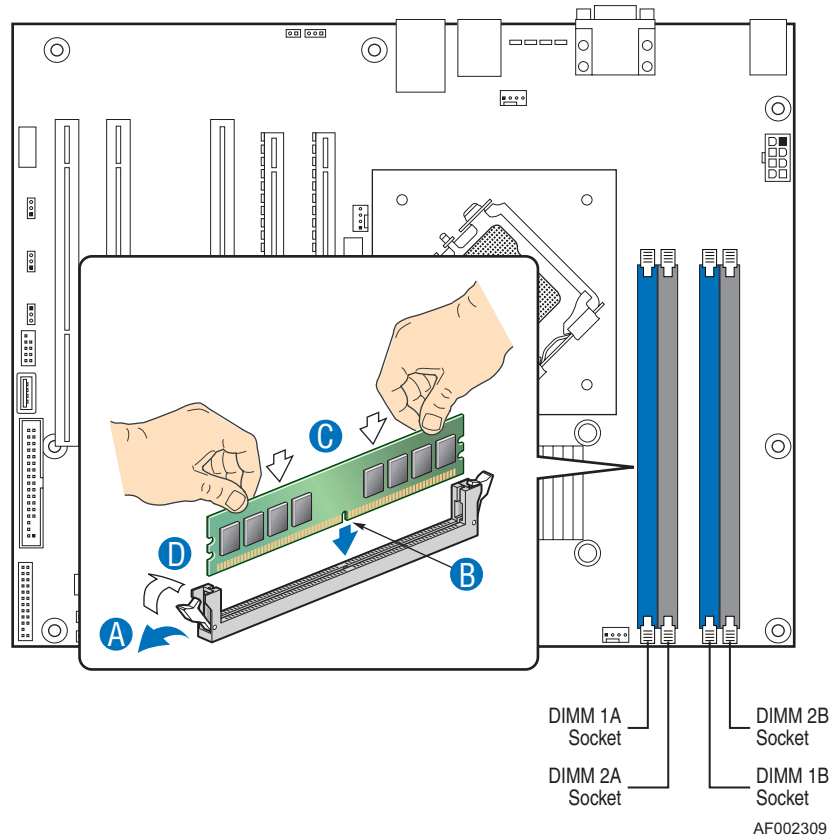

Figure 172: Upgrading the Memory
4. Press the plastic clips at the outer edge of the socket away from the memory module. This ejects the memory module from the socket (see “A” on Figure 172). Do not touch the module's metal "fingers." Store the module in an anti-static bag (available at electronic supply stores) or a cardboard box.
5. Align the new module with an empty memory socket. Make sure the notch on the module aligns with the key in the socket. The module is designed to install into the socket in only one way (see “B” on Figure 172).
6. Press the module firmly into the socket (see “C” on Figure 172). If you have difficulty installing a module, do not force it! Carefully remove the module, then check the alignment of the module's notch with the one in the socket. Then re-install the module.
7. Make sure the locking clips at either end of the module click closed (see “D” on Figure 172). If the brackets do not secure themselves to the module, carefully remove the module, then reinstall it.